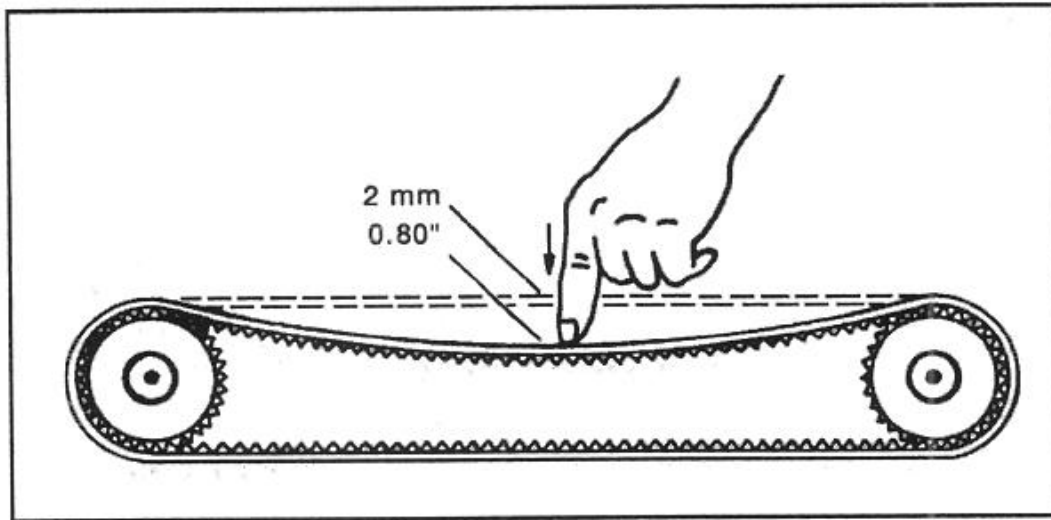

Figure 12: Belt tension
- c. Worn, damaged or loose robot arm belts. Upon pressing the belt, the slack should not be greater than 2 mm in tension (see Figure 12).